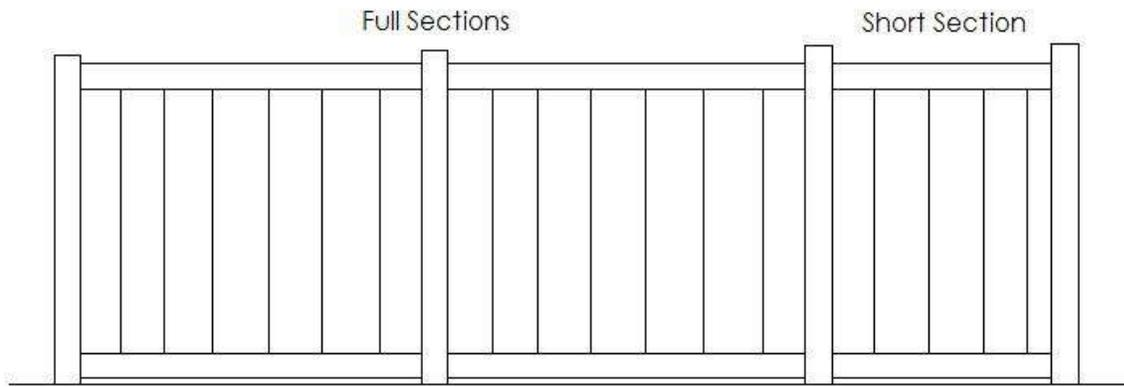

Figure 1.1
**Option 1 :** You may choose to have full sections and then a small section at the end. (Fig 1.1)